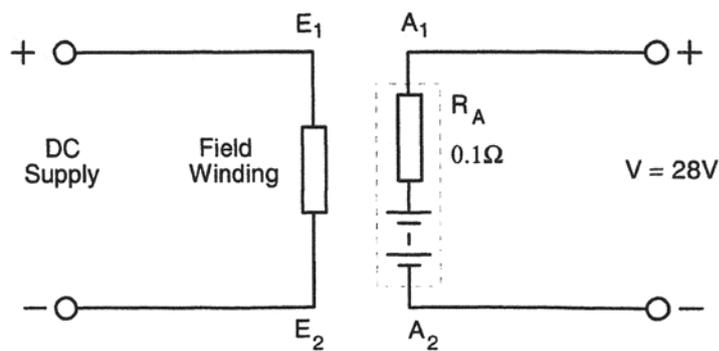

Figure1
7. The motor shown in figure 1 has a field flux of 0.0125Wb, runs at 250rpm, and has a machine constant of 8. For these conditions, determine the: